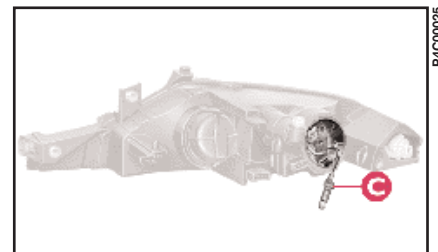

fig. 12
2) Slide out bulb holder **C** (fig. 12) by turning it slightly to make it easier to release.